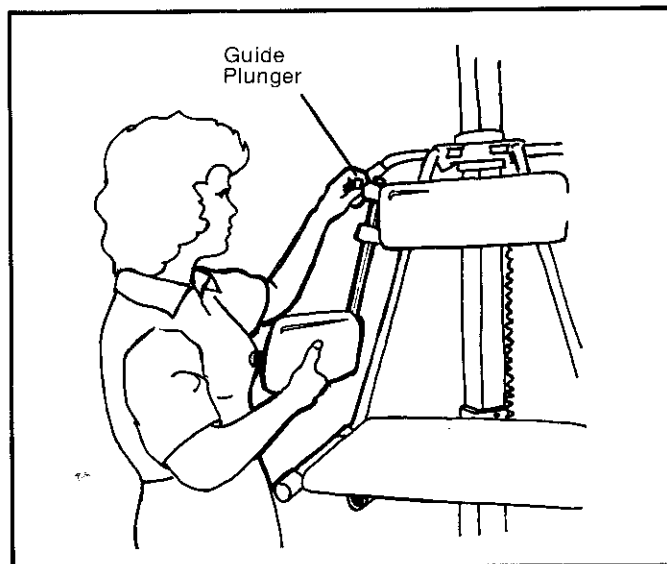

Figure 2-12
6. Place arm support on lift by pushing free end of arm support rod up thru lower guide first, then up thru upper guide while pulling out on upper guide spring loader plunger. Push rod thru guides until plunger sets itself into one of the three locking holes found in the arm support rod, Figure 2-12. Repeat step 6 for opposite arm support installation.